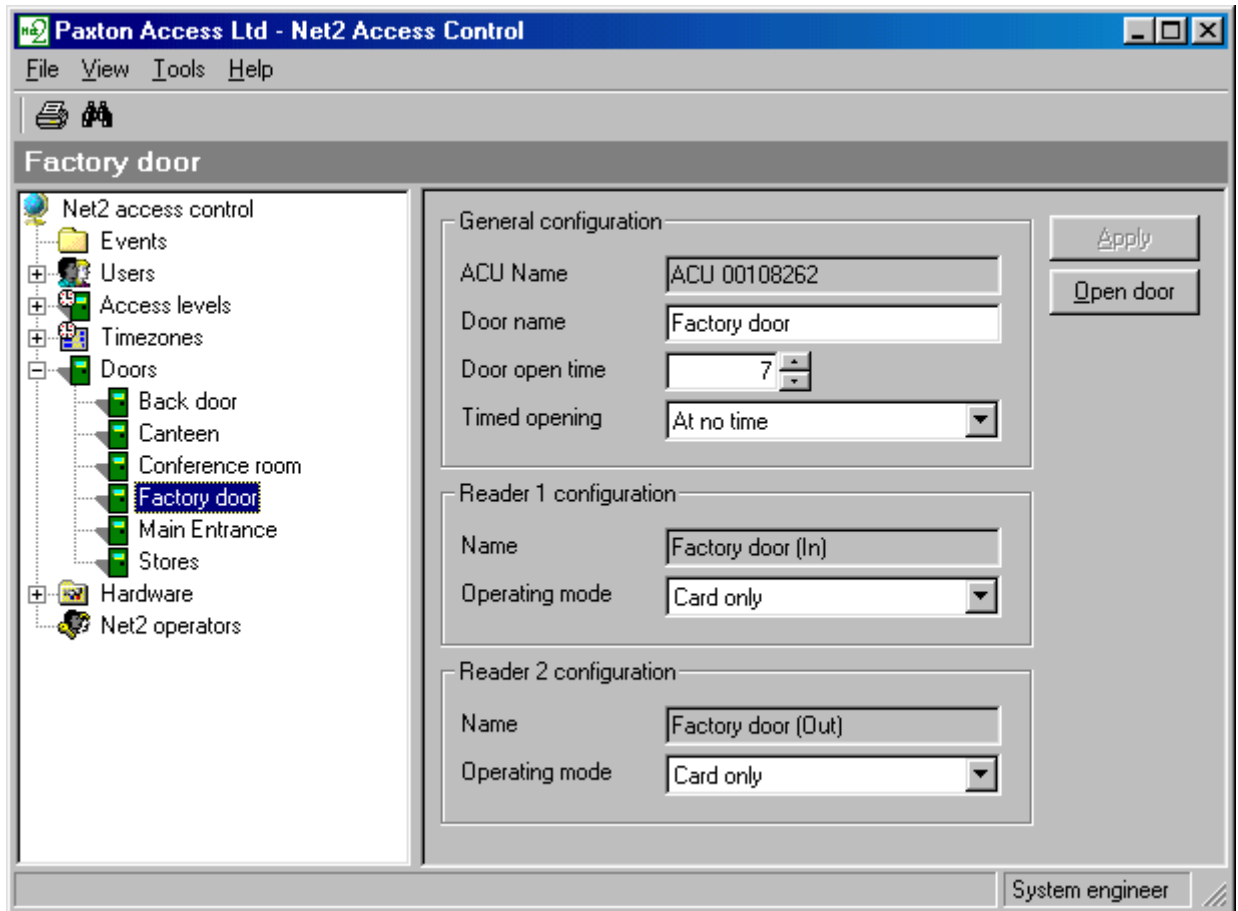

Figure 4.22
2. Select the desired door from the pull down menu in the treeview window, see figure 4.22.
1. Select the desired door from the pull down menu in the treeview window, see figure 4.22.